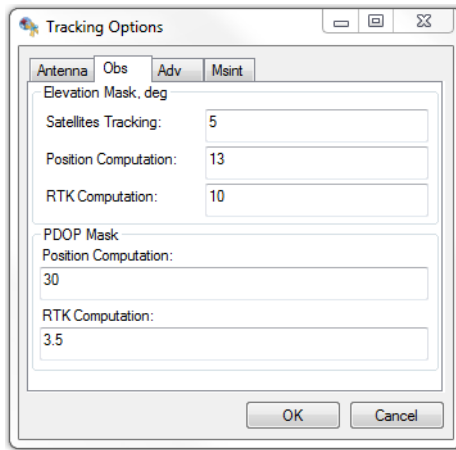

Figure 3-15. Configure Receiver Positioning – Elevation Mask
4. Click on the *(O)bservation* tab (Figure 3-15 on page 3-19) to set the following parameters, then press **Ok** to save.